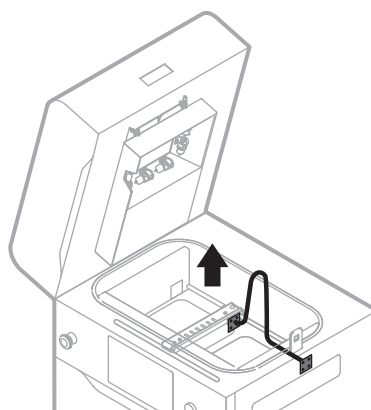

Fig. 4 Dragging out the plate without spring above the Recoater's roller.
10. Drag out the end of the cord (without spring) above the Recoater's roller. At first the mounting plate, then the ending, through the gap between the rotary shaft and Recoater housing. Be careful not to touch the roller (fig. 4).